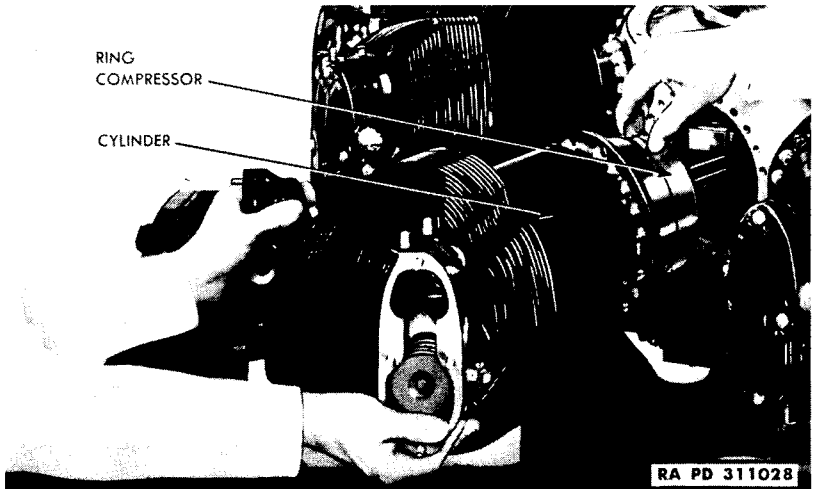

Figure 65 — Installing Cylinder
(2) **INSTALL NO. 1 CYLINDER.** Lubricate barrel of No. 1 cylinder with engine oil and install new rubber oil seal ring. Make certain all piston rings are properly installed and gaps set so that they are equally spaced (staggered) around piston. Coat piston freely with engine oil. Insure that cylinder flange and crankcase mounting pad are clean and free from dirt and enamel. Compress piston rings using a ring compressor and slide cylinder over rings (fig. 65). The cylinders are secured to crankcase by means of spherical seat washers and cap screws. When installing these cap screws, carefully apply a small amount of glyptal to the threads to prevent oil leakage at these points. When cylinder has been installed, secure it immediately by tightening two cap screws 180 degrees apart. Do not install all cap screws for cylinder No. 1 must be removed to check clearance between cylinder skirt and piston cooling nozzle. Check for possible interference between piston cooling nozzle and piston skirt.